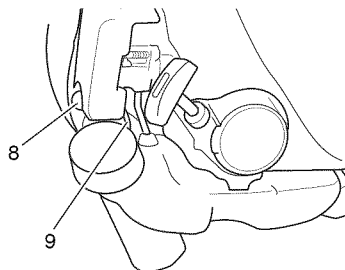

Fig. 5
- * Push priming bulb (8) several times so that fuel flows through the bulb or return pipe (9). (Fig. 5)